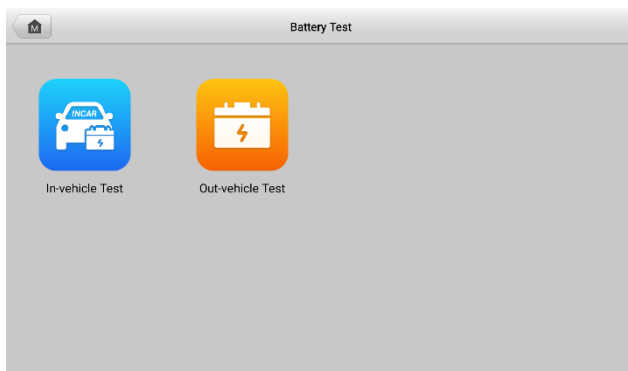

Figure 6-3 Battery Test Screen
1. Tap the **Battery Test** application on the OTOFIX Job Menu. The Battery Test screen displays (see Figure 6-3 Battery Test Screen).